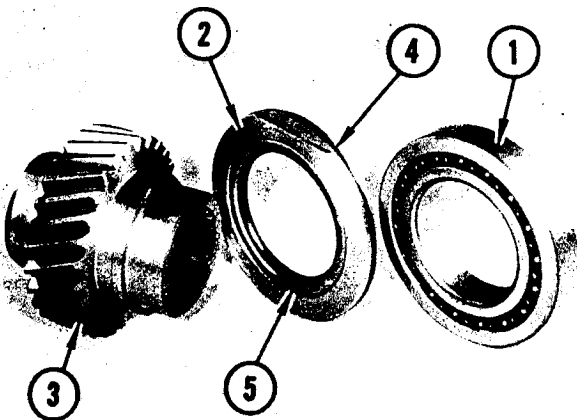

FIGURE 47. ALL SPEED GEAR ASSEMBLY
Refer to Figure 47 and disassemble allspeed gear assembly. Press or pull bearing (1) from gear hub. Remove seal retainer (2) from allspeed gear (3). Remove "O" ring (4) from groove in seal retainer. Press or drive oil seal (5) from seal retainer.